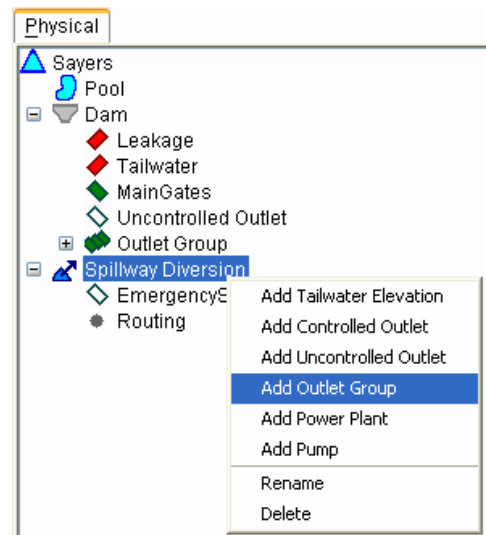

Figure 10.11 Diverted Outlet Shortcut Menu: Add Outlet Group
On the Physical tab, you may use either the component-specific menus in the Reservoir Editor's menu bar or the right-click shortcut menus (Figure 10.11) to add an Outlet Group as a component of a Dam, Diverted Outlet, or other Outlet Group.
2. Choose **Add Outlet Group** from the shortcut menu (Figure 10.11) or from the component's menu in the Reservoir Editor's menu bar.